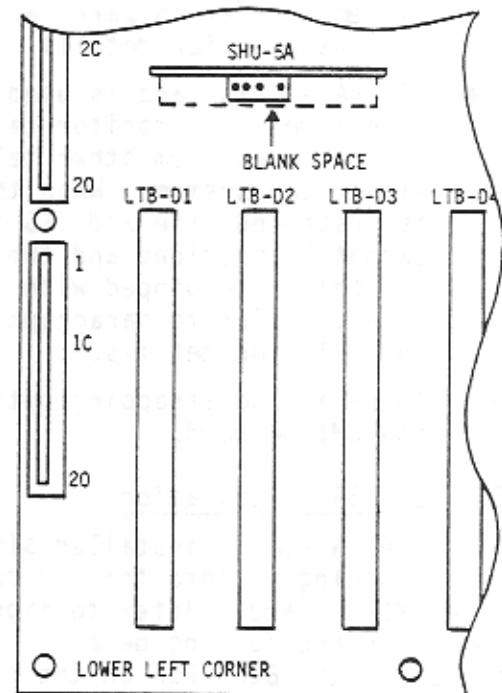

Figure 7
6.50 To install the SHU-5A, simply plug it into the SH connector on the CPU-5A. Refer to figure 7 for orientation of the card.